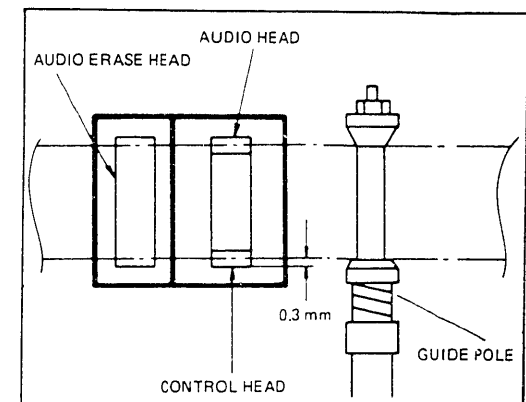

Fig. 25
- 2) Adjust the azimuth adjustment screw in the same way as in item 1) so that the side of the AC head and surface of the reel height adjustment jig are parallel.
- 3) Load the blank tape and set this unit to the PLAY mode. Observe the tape transport condition around the AC head and adjust the height adjustment nut so that relation between the tape and the AC head position is as shown in Fig. 25.